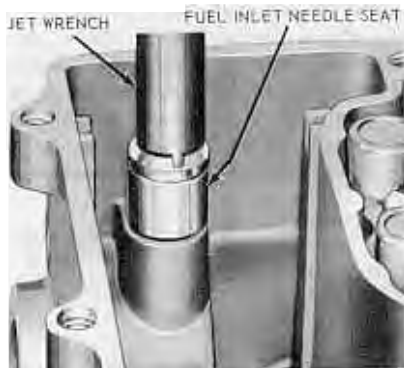

FIG. 14—Fuel Inlet Needle Seat Removal or Installation
2. Remove the fuel inlet needle, seat, filter screen, and the main jets with a jet wrench (Figs. 14 and 15).
12. Install the main jets and the fuel inlet seat, filter screen, and new gasket, using a jet wrench (Figs. 14 and 15). Be sure the correct jets are installed.